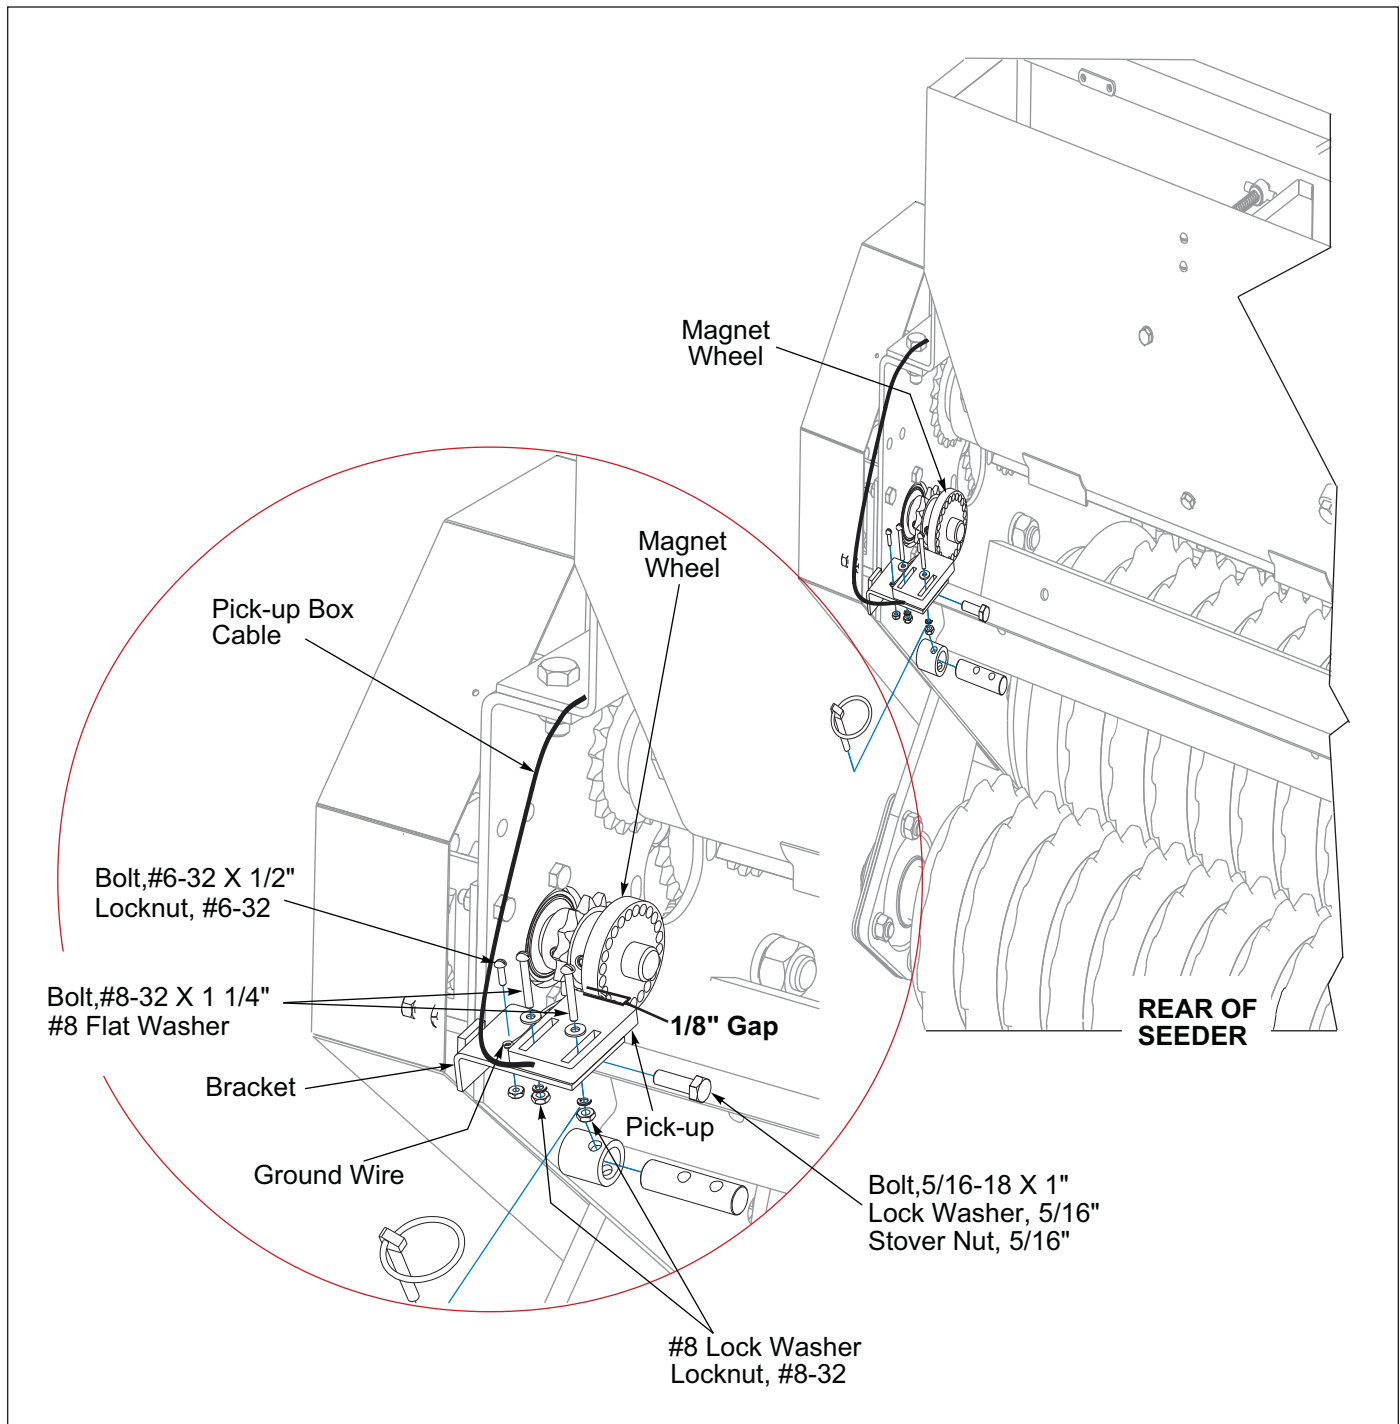

Figure 2-7: Acre Meter Rear Installation (2 of 2)
- At the rear of the seeder, mount the L-shaped bracket to the end plate with a 5/8-11 x 1-1/2" bolt and locknut as shown. **See Figure 2-7.** The small shoulder on the bracket should butt up against the end plate of the seeder frame. On top of this bracket mount the pickup with two #8-32 x 1-1/4" bolts, flat washers, lock washers, and locknuts.